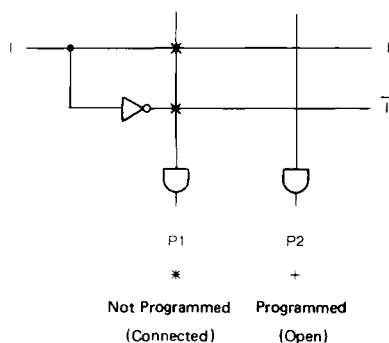

Fig. 1
As illustrated in Fig. 1, if both positive input (I) and negative input ( $\bar{I}$ ) are not written to, the AND output (P1) is inactive. If both positive input (I) and negative input ( $\bar{I}$ ) are written to, the AND output (P2) is logically "Don't Care".